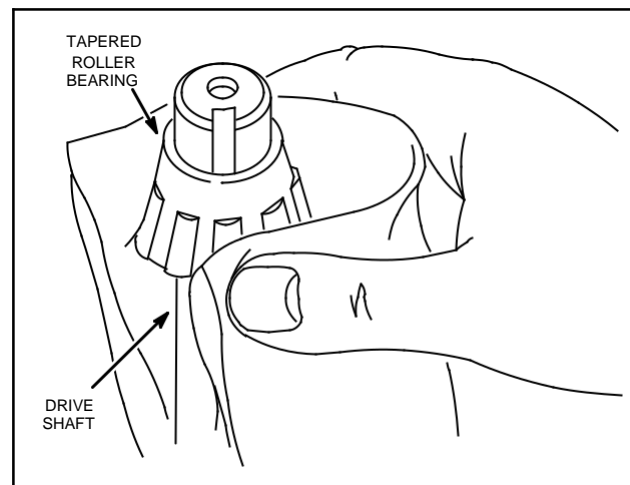

Fig. 146 - INSTALLING TAPERED ROLLER BEARINGS
3. Grasp bearing and thrust it down on the drive shaft against flange of gear, Fig. 146.